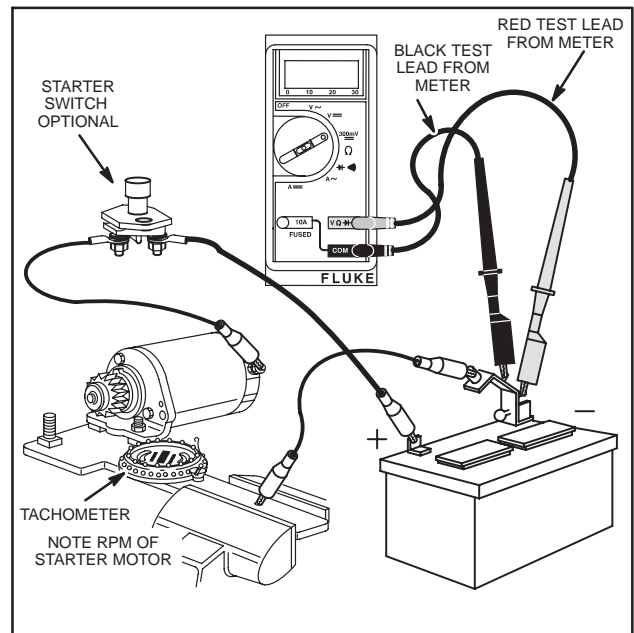

Fig. 6 – Testing Starter Motor
It is recommended that the starter motor be removed from the engine when testing starter motor performance. Remove rotating screen and blower housing. Remove two starter motor mounting screws. Assemble starter to test bracket and clamp test bracket in vise, Fig. 6.
1. The DC Shunt **MUST** be installed on the **negative (-)** battery terminal as shown in Fig. 6.